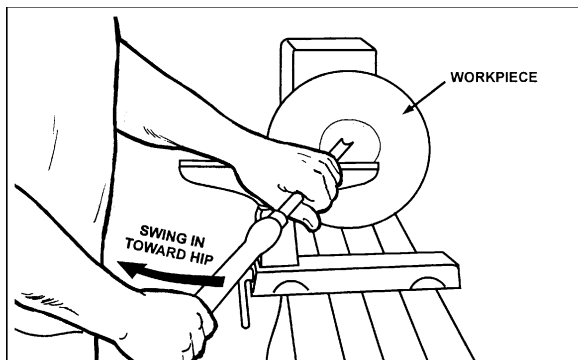

Figure 9-11
5. Place 1/2" bowl gouge on tool support at center of the workpiece with the flute facing top of bowl. The tool handle should be level and pointed toward the four o'clock position, as shown in Figure 9-11.
6. Use the left hand to control cutting edge of gouge, while right hand swings tool handle toward your body (Figure 9-11). The flute should start out facing top of workpiece and rotate upward as it moves deeper into the bowl to maintain a clean even curve. As the tool goes deeper into the bowl, progressively work out toward the rim. It may be necessary to turn the tool support into the piece as you get deeper into the bowl.